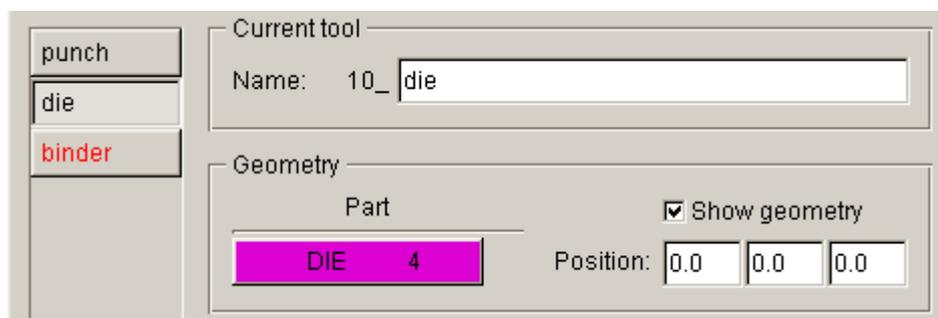

Figure 2.29 Die definition interface
14. Click **Exit** button to return to tool definition interface. Now, you can observe the font color of **die** is also changed to BLACK. See Figure 2.29.